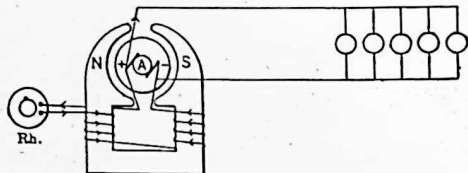

FIG. 119. Shunt generator, supplying incandescent lamps with current.
**59. Shunt Generator.** When the fields are excited by a current shunted around the main circuit, as in Fig. 119
**60. Building Up of Shunt Field.** Even when no current flows through the field coils of a machine there is always a small amount of magnetism in the field. So when we start up a shunt generator, the armature conductors are revolving in a very weak field. But as the wires of the armature cut through this weak field, a small voltage is produced across the brushes. Now, since the field coils are connected directly across the brushes (see Fig. 119 and 120), a small current will be sent through these windings. This will slightly increase the strength of the magnetic field. As the armature now revolves in this increased field, the voltage across the brushes will be raised a little, which in turn will send a larger current through the field coils, which still further increases the magnetic field, raises the voltage, and increases the field current. This is called the **building up** process of the field, and it continues until the fields have enough magnetism to produce full voltage, the value of which depends upon the speed of the armature and the resistance of the field circuit. This process usually takes from 10 to 30 seconds. After the voltage has become constant, it can be controlled further and set to any definite value within the limits of the machine, by means of an adjustable resistance in series with the field. If the voltage is too high, it can be lowered by increasing the resistance, thus lowering the field current, which weakens the magnetic field and therefore lowers the voltage produced in the armature conductors. We can also raise the voltage by increasing the speed of the armature, or lower the voltage by decreasing the speed of the armature. Then the voltage across the brushes remains constant and is ready to deliver current to the outside line.